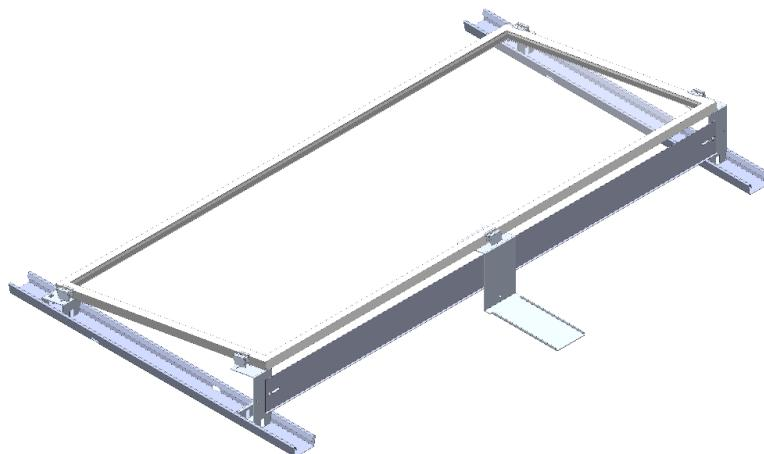

Fig. B1 – AeroRack with High Uplift Solution Support
- 1 Center the HUS support (HUSxx-01B) on the northside of the panel between two supports (Exx-01B). Move the support into place until it is in contact with the module (see Fig. B1). There may be a small gap between the support and panel—this is not a cause for concern. If using Inverted supports (HUSxx-01B-INN) repeat the same process.